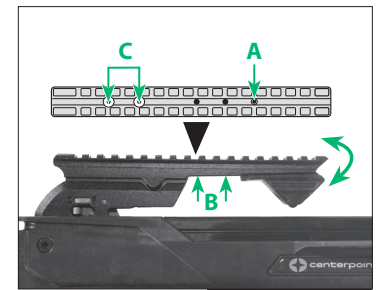

FIGURE 15
- 5b Remove the two screws from the top of the picatinny rail. (Fig. 15 C)
- 5d Remove the two screws on the bottom of the picatinny rail holding the retention spring in place. (Fig. 15 B)